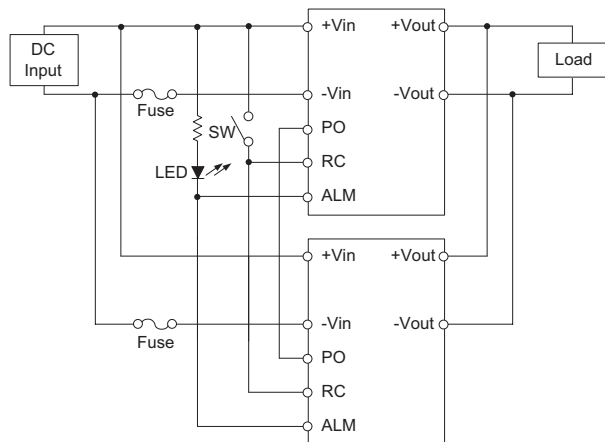

Fig.5.2 Example of parallel operation
- In parallel operation, connect each PO and ALM pin mutually, wiring as Fig.5.2.